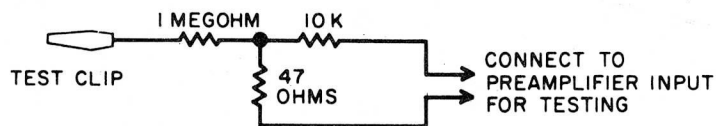

Figure 6-8. Test Circuit
(a) Set up the test network shown in Figure 6-8.
- (c) Connect the test circuit of Figure 6-8 to the preamplifier circuit card input. (Do not disconnect the preamplifier input from the optical package.)